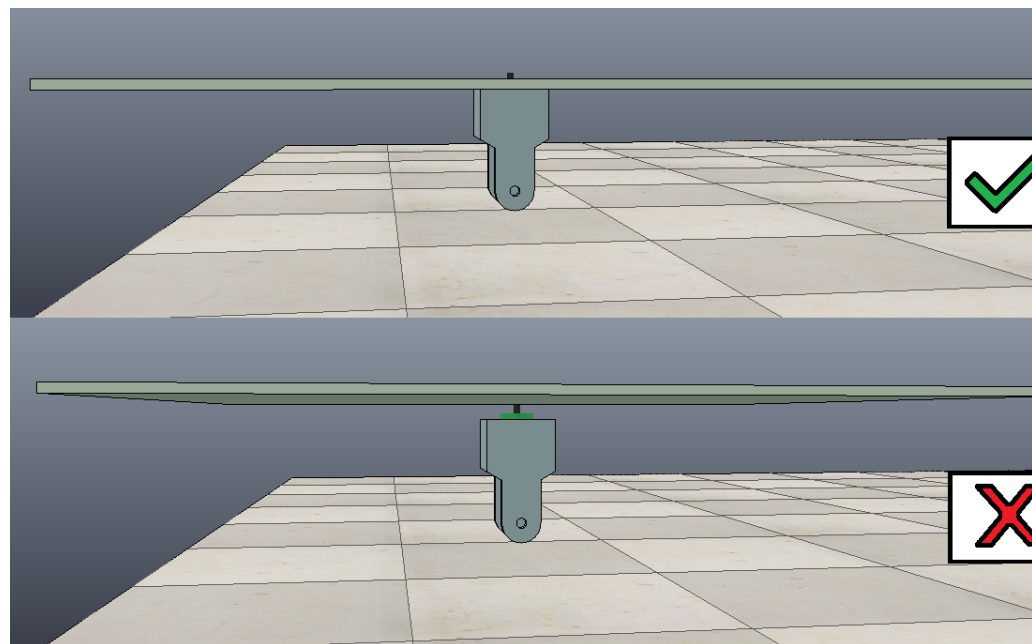

Figure 2: Extra gap between objects is **NOT** allowed.
- Objects should **not be left** hanging in the air as shown in Figure 2.